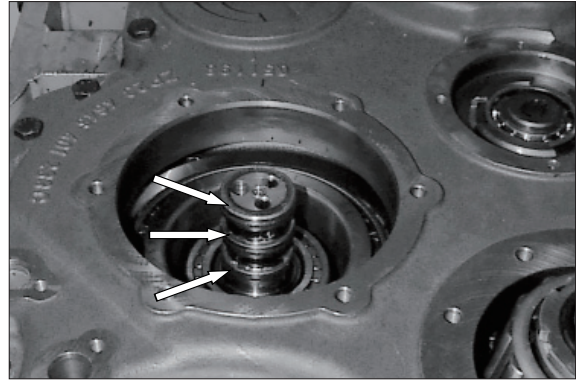

Figure 252
- (8) Check the function of both clutches by means of compressed air.
- ※ In case of a decisive pressure loss, the possible cause might be the breakage of one or several rectangular rings (see arrow , figure 252).